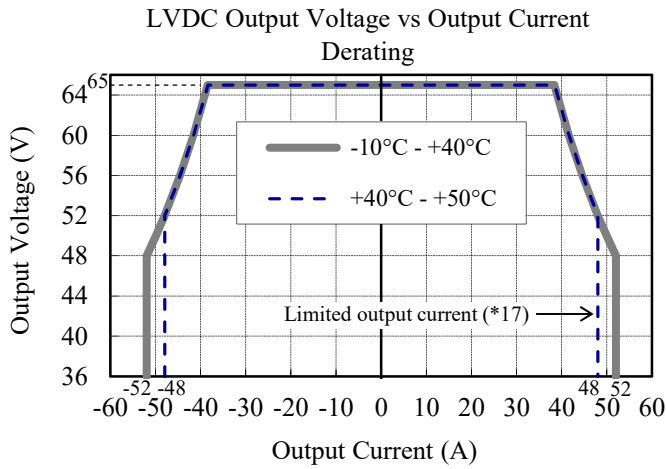

Fig. 1
- *4. Ta>40°C : Maximum LVDC current is limited to 48A. (Refer to Fig.1)